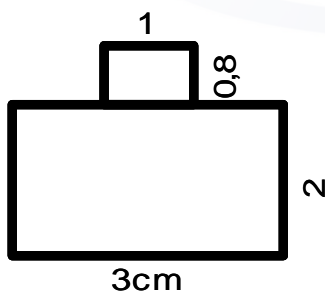

Fig. 1
Execute the cutting out of the inside roof lining according to the provided cm-dimensions in figure 1.
**CAUTION:** Do not use the figure 1 as a template. The dimensions can vary depending on the document formatting.